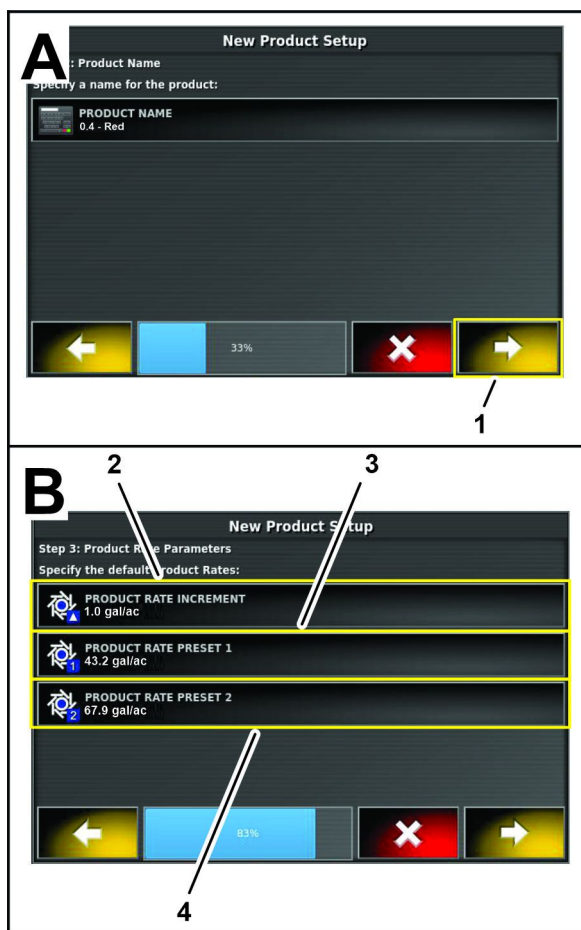

Figure 119
8. On step 2 of the new product setup dialog box, press the NEXT icon (Figure 119).
9. On step 3 of the new product setup dialog box, press the PRODUCT RATE INCREMENT icon (Figure 119).
11. On step 3 of the new product setup dialog box, press the PRODUCT RATE PRESET 1 icon (Figure 119).
13. On step 3 of the new product setup dialog box, press the PRODUCT RATE PRESET 2 icon (Figure 119).